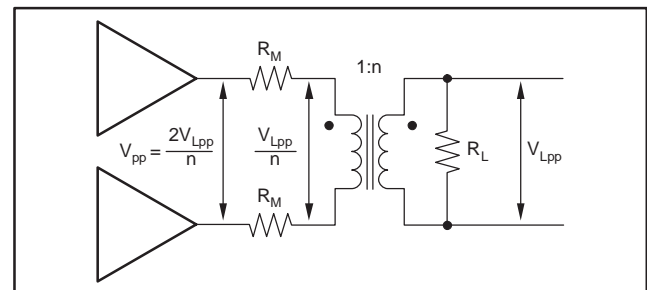
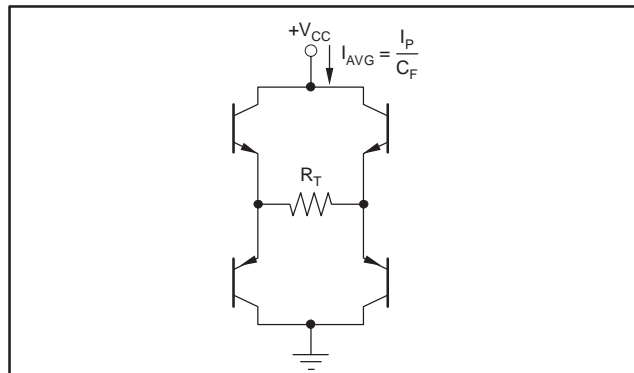

Figure 7. Driver Peak Output Voltage
Figure 9. Output Stage Power Model
With V_{LPP} as defined in Equation 8, and R_M as defined in Equation 4 and shown in Figure 7.
OPA2613 holds a relatively constant quiescent current versus supply voltage—giving a power contribution that is simply the quiescent current times the supply voltage used (the supply voltage will be greater than the solution given in Equation 12). The total output stage power may be computed with reference to Figure 9.
The two output stages used to drive the load of Figure 7 can be seen as an H-Bridge in Figure 9. The average current drawn from the supply into this H-Bridge and load will be the peak current in the load given by Equation 10 divided by the crest factor (CF) for the xDSL modulation. This total power from the supply is then reduced by the power in R_T to leave the power dissipated internal to the drivers in the four output stage transistors. That power is simply the target line power used in Equation 5 plus the power lost in the matching elements (R_M). In the examples here, a perfect match is targeted giving the same power in the matching elements as in the load. The output stage power is then set by Equation 13.